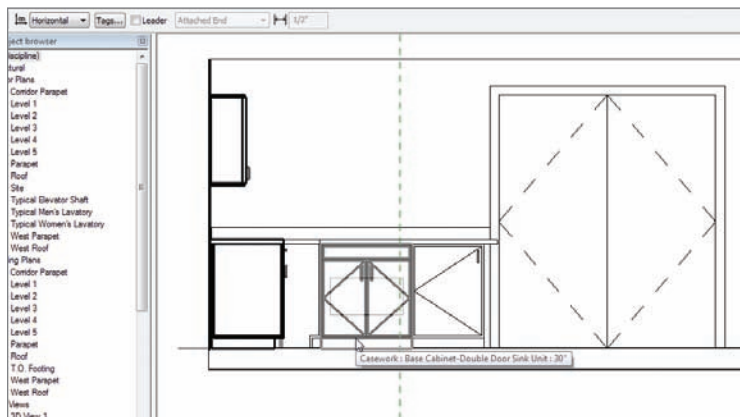

FIGURE 11.86 Picking the base cabinet with two doors and one drawer
2. Zoom in on the cabinets, as shown in Figure 11.86.
5. Pick the base cabinet with two doors and one drawer, as shown in Figure 11.86.